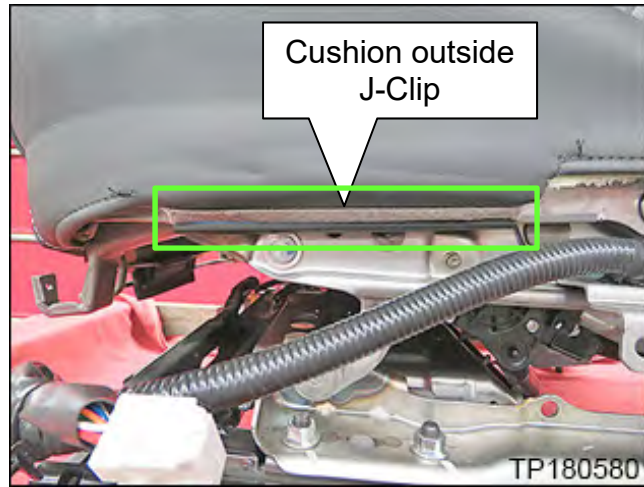

Figure 6
9. Detach the seat cushion outside J-Clip shown in Figure 6 from the seat frame.